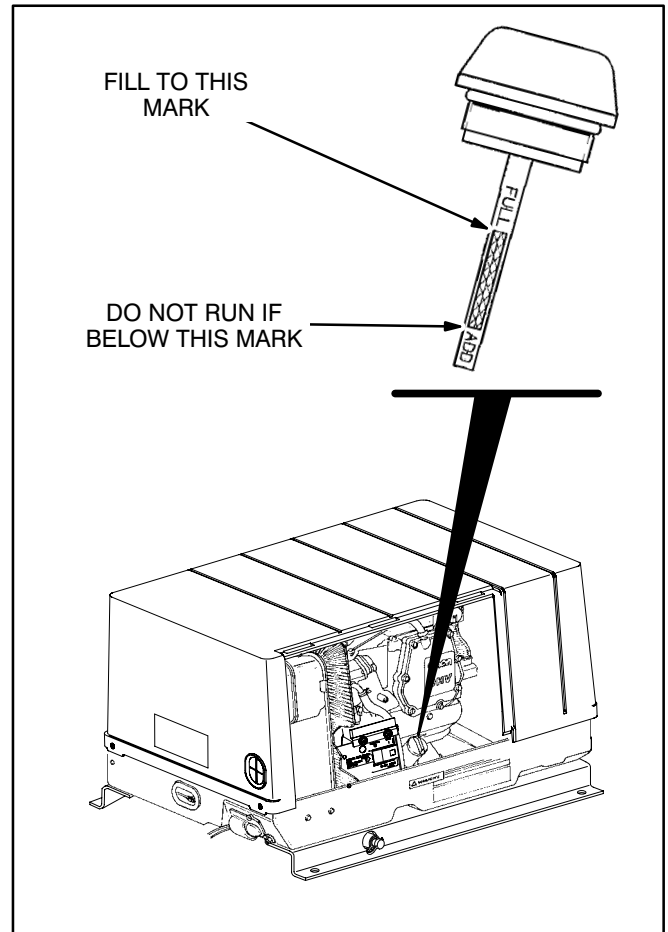

FIGURE 9. CHECKING ENGINE OIL LEVEL
1. Unscrew the oil fill cap and wipe oil off the dipstick (Figure 9). Screw the cap back on, remove it again and check the oil level on the dipstick.
1. Run the engine until warm, stop it and remove the oil fill cap (Figure 9).